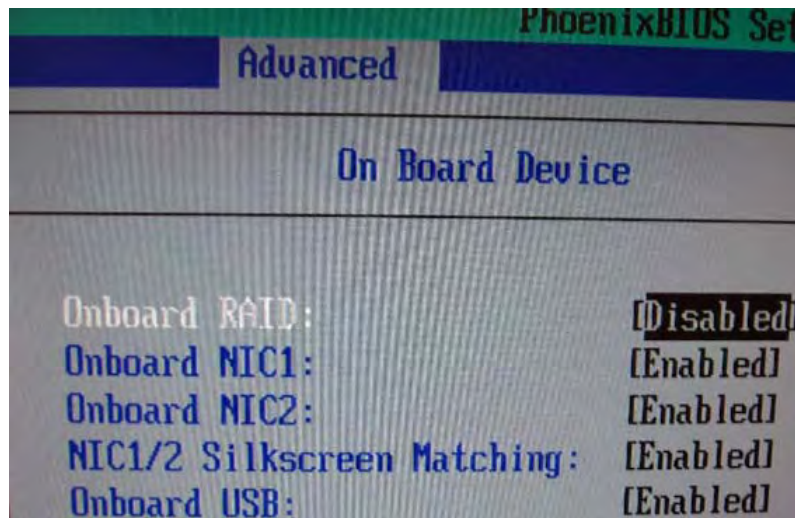

Figure 1-10. BIOS On Board Device
5. Verify the "Onboard RAID" controller is **Disabled**. If enabled, change with the + key (Figure 1-10).